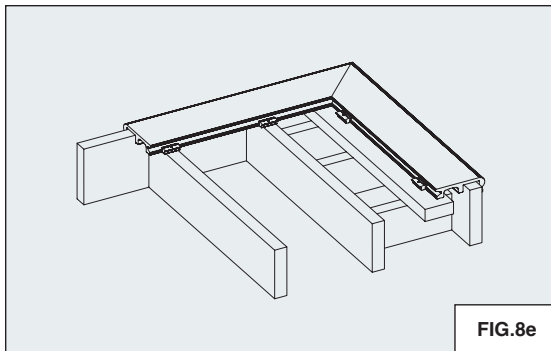

FIG.8e
- Install bullnose trim on rim joist and outer joists first before installing decking. (REFER TO FIG. 8e)